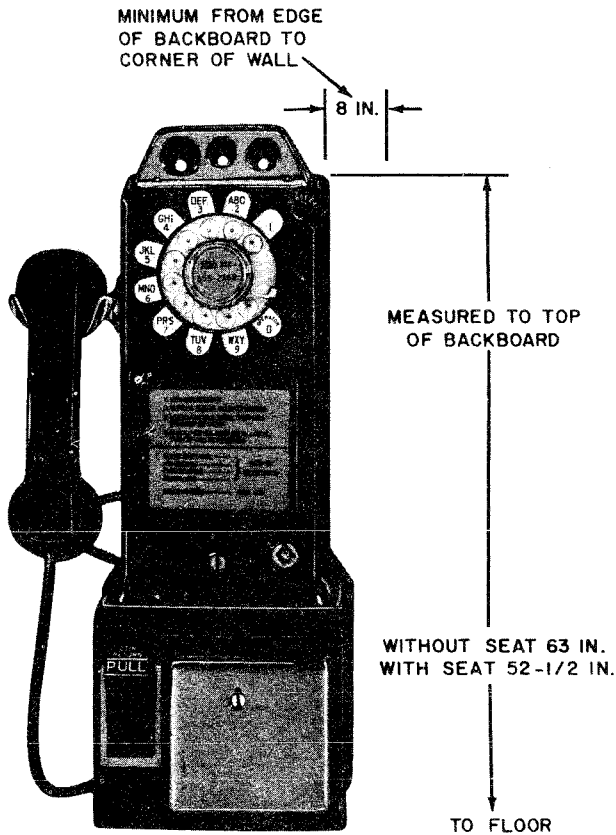

Fig. 2—Suggested Mounting Height and Clearance
**2.03** Fig. 2 shows the suggested mounting height and clearance for all coin stations. Stations may be mounted at other heights to meet local conditions providing this does not create service or maintenance problems.